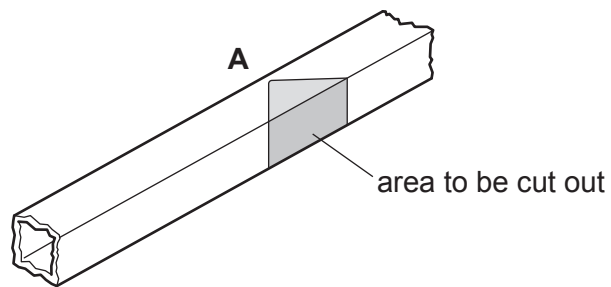

Fig. 12.2
- (a) Fig. 12.2 shows parts of the top rail and leg of the rack marked out, ready to be cut, folded and brazed to form the corner at **A**.